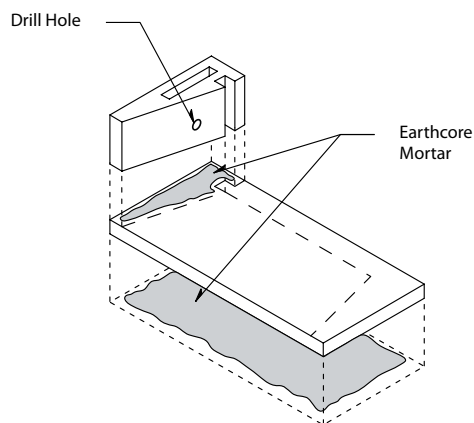

Figure 7
Step 2: Set the first course of the firebox back wall and side walls into place on the base plate. (Figure 7)